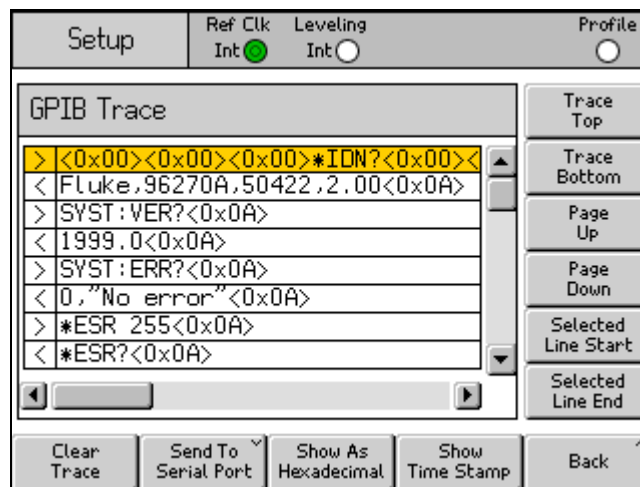

Figure 28. GPIB Trace Screen
5. From the GPIB Personality screen, push the GPIB Trace softkey. This will bring up the GPIB Trace screen and display the contents of the trace buffer. See Figure 28.